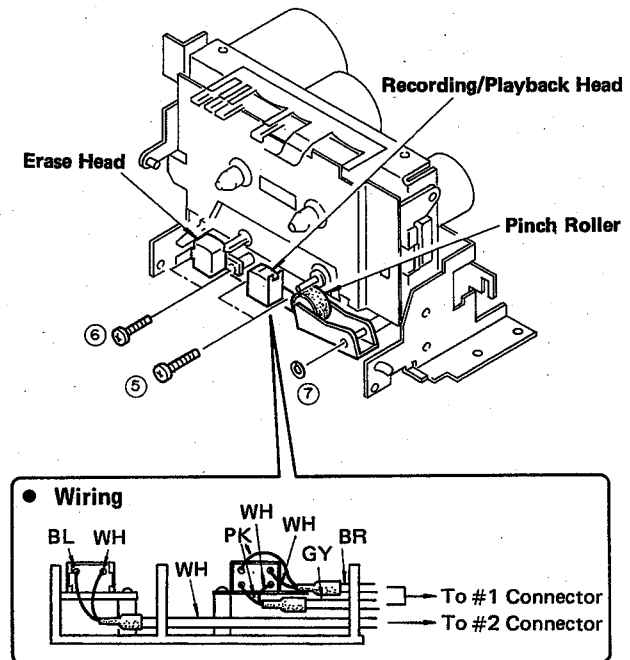

Fig. 3
- a. Remove 2 screws (⑤) in Fig. 3 and then remove the Recording/Playback Head.
- b. Remove 2 screws (⑥) in Fig. 3 and then remove the Erase Head.
- c. Remove Washer (⑦) in Fig. 3 and then remove the Pinch Roller.